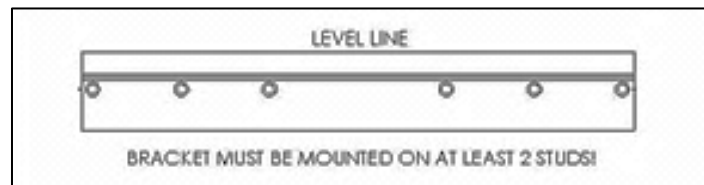

Figure 6 – Wall Mounting Bracket – NOTE: Drawing for Demonstration Purposes ONLY
a. The building frame (studs) must be 2 X 4 minimum and 16" on center (24" on the EFT-399). If not, you must use ½" minimum plywood 24" x 48" with at least fourteen (14) #12 x 3" (3/16" x 3") round head tapping screws to the frame of the building to provide proper support for the boiler. No alternate methods of mounting or fastening (ex. Toggle bolts, hollow wall anchors, or any other fastener) may be used.
d. Pre-drill pilot holes on the marked stud locations. The pilot holes for bare studs should be 2" deep for all EFT models. See table below for pilot hole diameter by wood type. Increase length for any material covering the stud. Ensure that the pre-drilled holes are straight and square to the wall. Failure to do so could lead to insufficient support or out of level boiler. See Figure 6.
c. Pre-drill holes on the marked stud locations. The pre-drilled holes should be 1/2" in diameter for 3/16" bolts, and 3/4" in diameter for 3/8" bolts, to allow for the collapsed wings of the toggle to slide through. Ensure that the pre-drilled holes are straight and square to the wall. Failure to do so could lead to insufficient support of out of level boiler. See Figure 6.